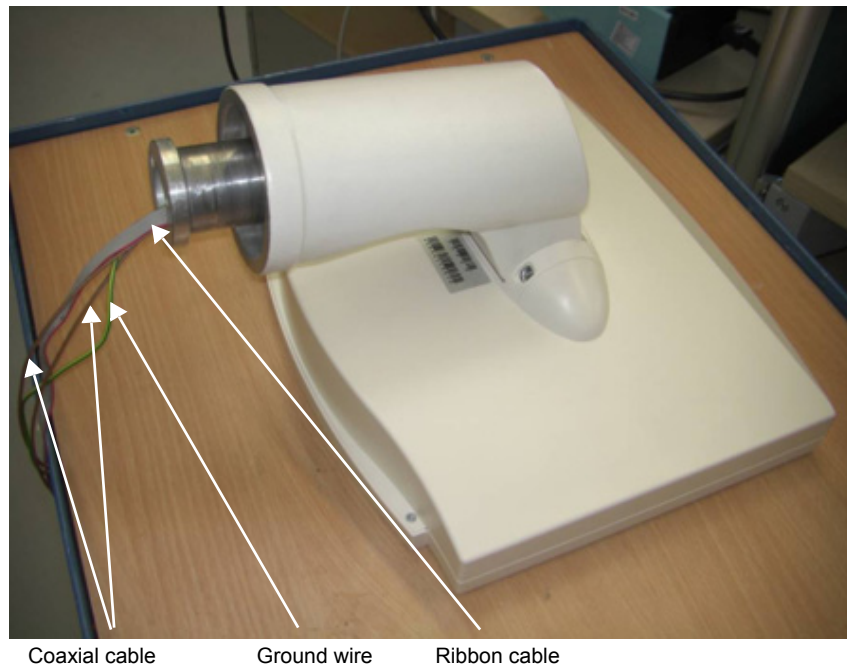

Fig. 4-4 Dismounted Solo Center
- Take the Solo Center (→ Fig. 4-4) in your hand and stand next to the Solo Center support arm.